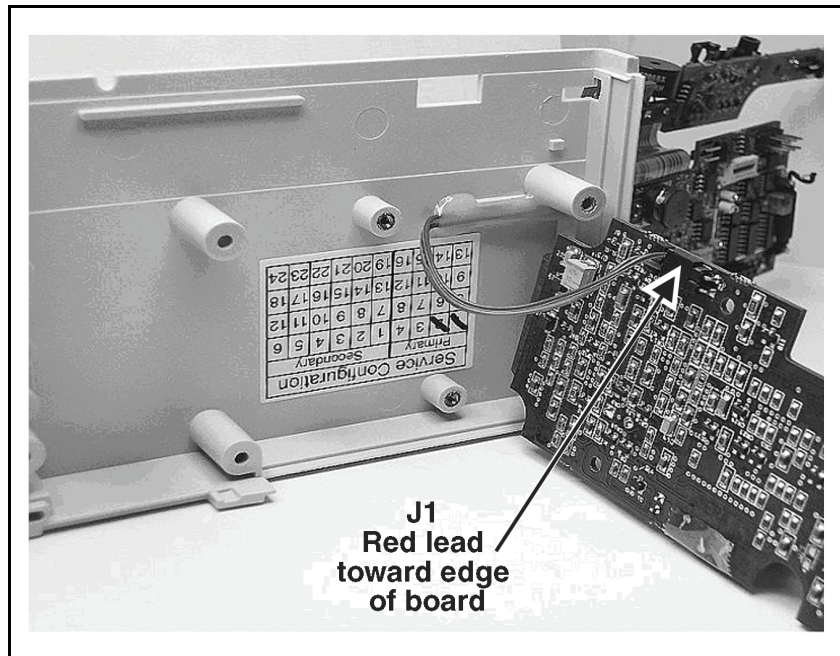

Figure 6-21. Reed Switch Connection
3. Refer to Figure 6-21. Plug the 2-pin connector from the Reed Switch on the Rear Case Assembly into J1 on the bottom of the Primary PCB as shown.